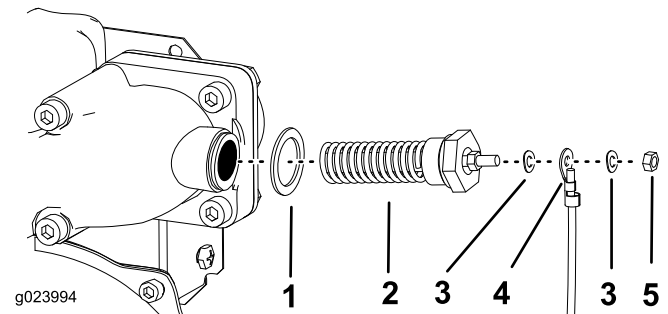

Figure 6
3. Install the glow plug, 2 washers, the longest wire coming from the relay wiring harness and the nut as shown in Figure 6.